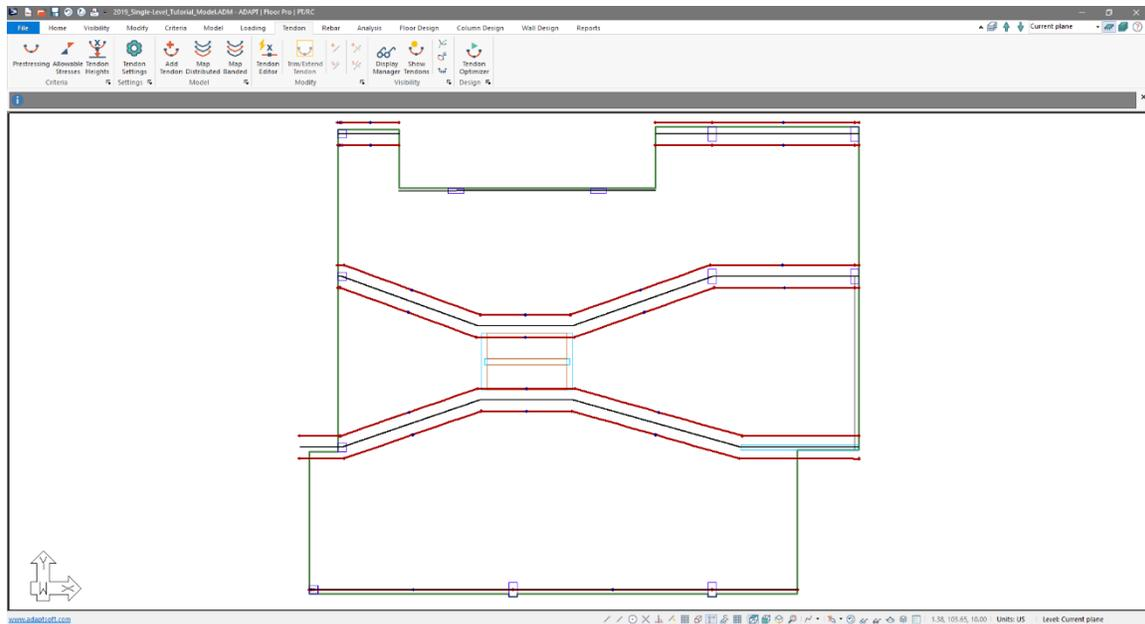

Figure 8-14
- Because all other settings are acceptable, we can now click *OK* to close the window and create the banded tendons for the selected support lines. At this point the user should have a screen showing the model with banded tendons and the X-direction support lines as shown in **FIGURE 8-14**.